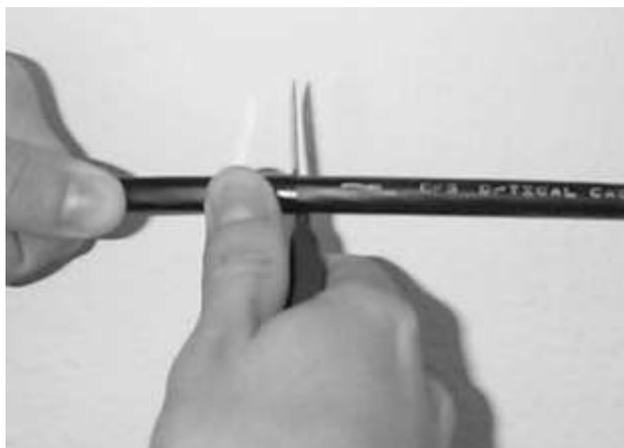

Figure 22 – Ring cut the cable jacket.
6.11 Use a cable sheath knife to ring cut the cable at one of the measured marks. Lightly score the cable jacket – do not cut completely through the jacket (Figure 22).